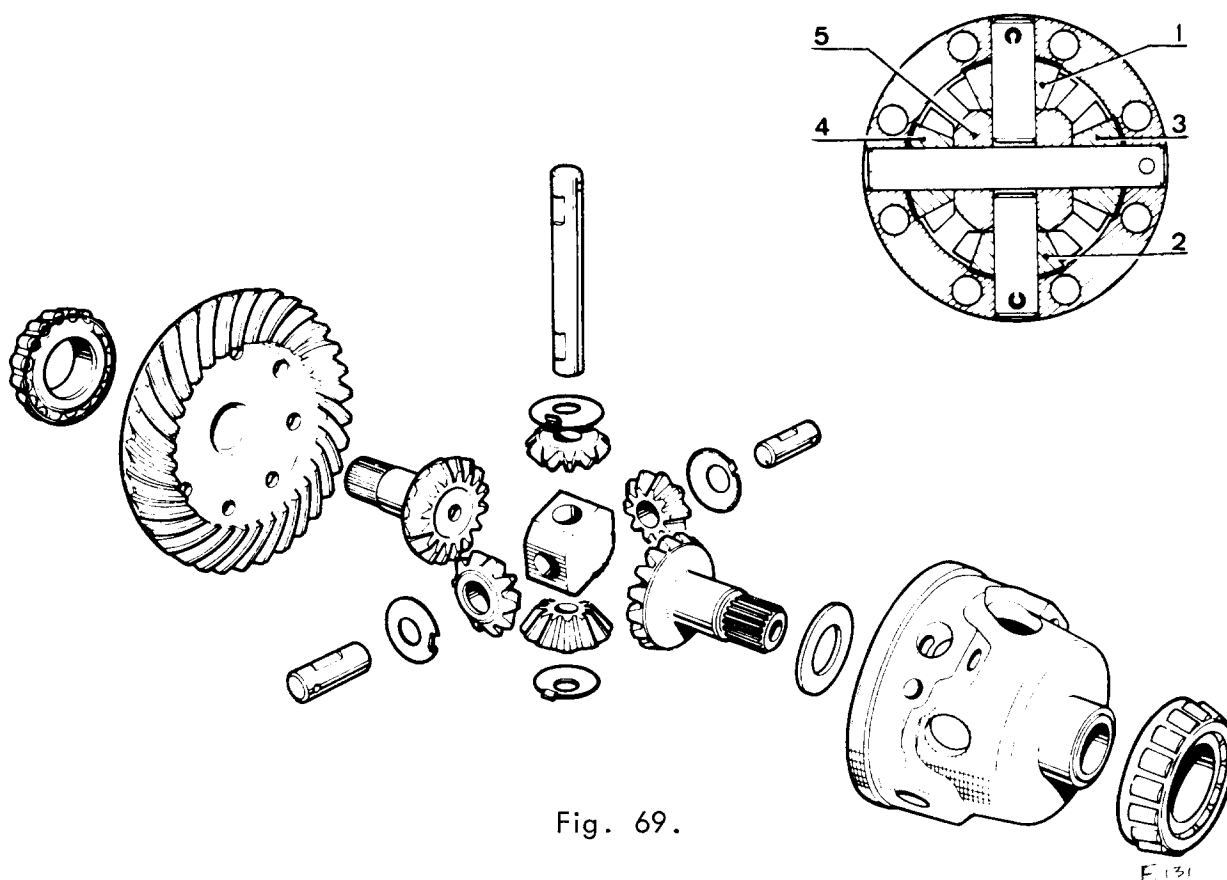

Fig. 69.
- d. The planet wheels (1 and 2) (see Fig. 69) and their thrust washers, ensuring the locking tags are located in the holes in the housing.
- g. Insert the hub (5), noting that its chamfered ends must face towards the two small shafts. Push all three shafts in as far as possible, lining up the holes with those in the housing. Secure the small shafts with new roll pins.